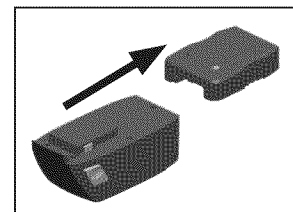

Figure 3 - Remove Charger
4. Unplug charger. Remove the battery pack by sliding out (See Figure 3).